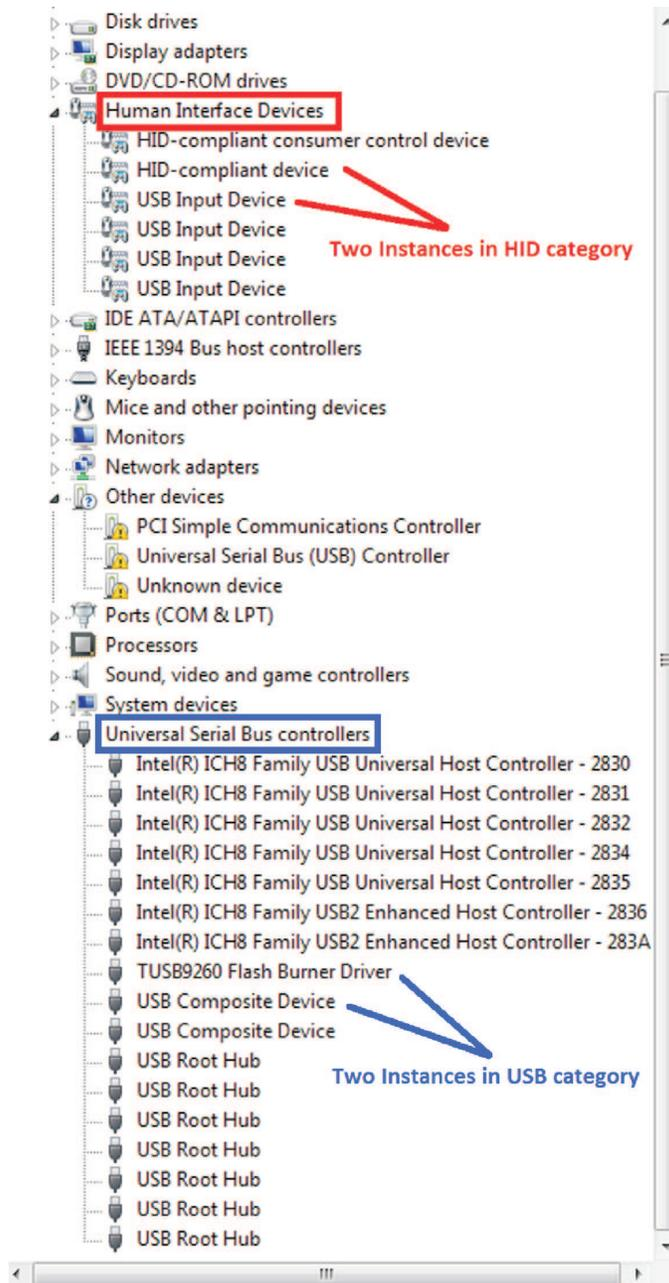

Figure 2-5. TUSB926x Device Instances With Blank or SPI Flash Not Connected
1. Blank or SPI Flash not connected (see Figure 2-5)